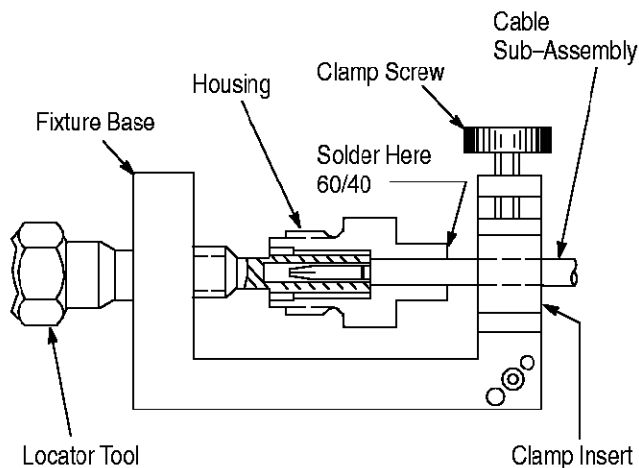

Figure 5
3.3. Soldering of Cable Sub-Assembly to Housing (Figure 5)
2. Place loose assembly in fixture base as shown in Figure 5.